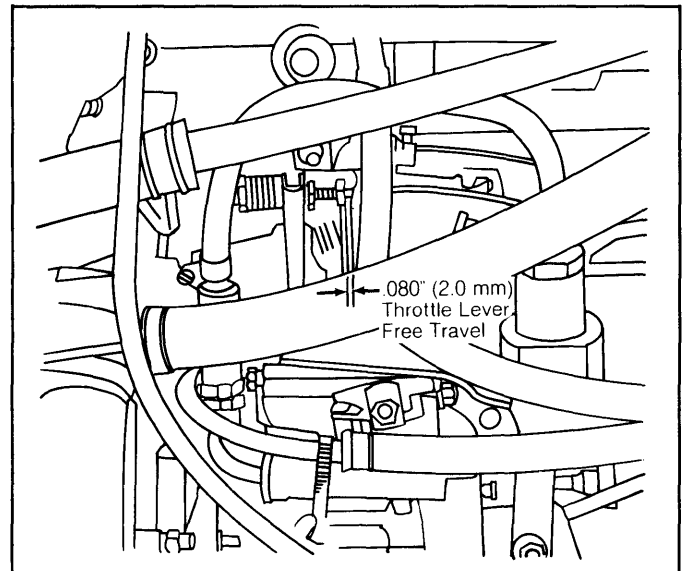

Fig. 4: EP/VM Throttle Stop Adjustment
- 2) Push accumulator lever to fully open position (minimum engine speed). Adjust idle speed to 730 RPM with a .080" (2.0 mm) throttle lever free travel. See Fig. 4.